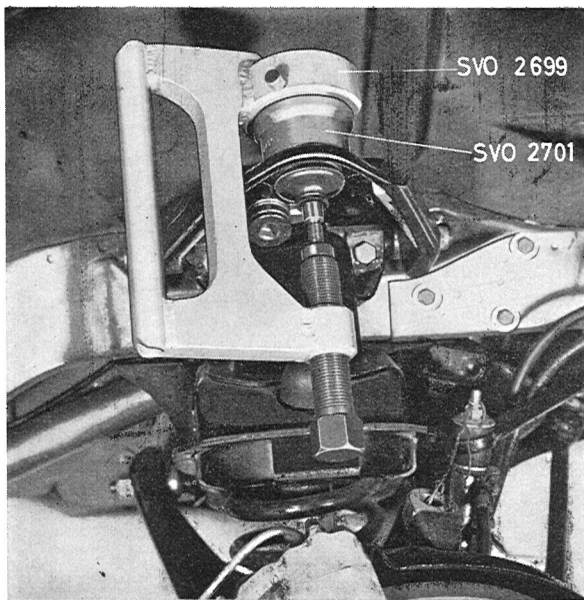

Fig. 6-23. Removing upper ball joint
3. Slacken but do not remove the nut for the upper ball joint. Knock with a hammer on the steering knuckle round the ball joint pin until it loosens from the axle. Remove the nut and suspend the upper end of the axle with a wire to avoid straining the brake hoses. See Fig. 6-23.
4. Loosen the nuts for the control arm shaft a 1/2 turn. Lift up the control arm slightly and press out the ball joint with press tool 2699 and sleeve 2701, see Fig. 6-23.